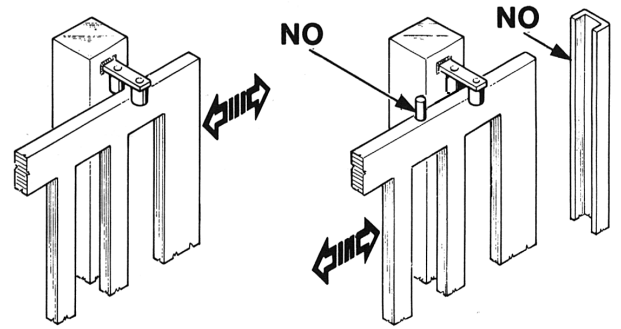

FIG. 3
- The gate columns shall have anti-derailment guides on their top (Fig. 3),
Note: Eliminate the mechanical stops of the kind described by Fig. 3. No mechanical stop shall be on top of the gate, since mechanical stops are not safe enough.